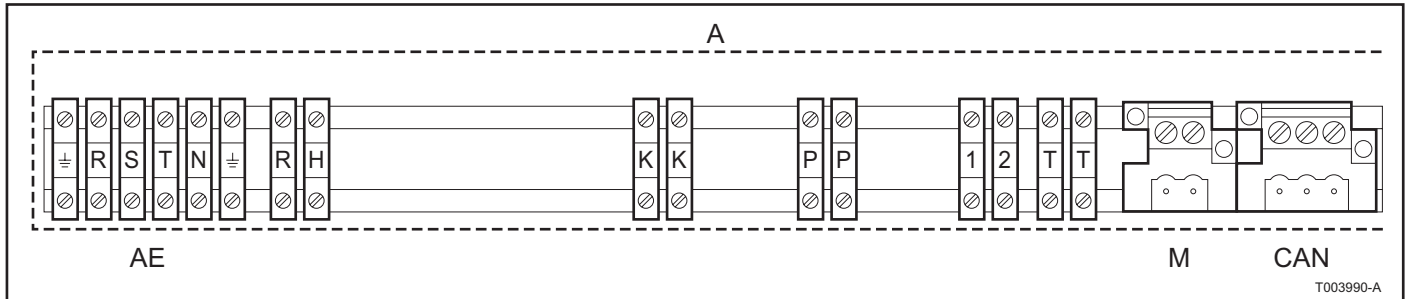

Fig. 21 Terminals in the closed panel
- A Closed panel (see Fig. 21)